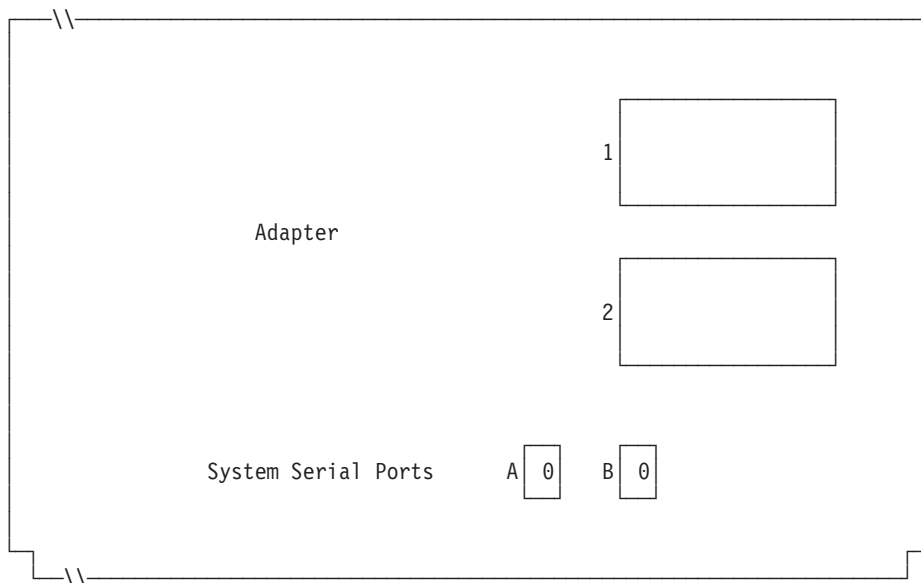

Figure 101. Right Side of Rear of 4694-1x4/205 Controller/Terminal
6. If the asynchronous port is used by terminal applications, write the port number on Figure 101. Use a 0 if a port is not used by the terminal. Valid port numbers are 1, 2, 3, 4.